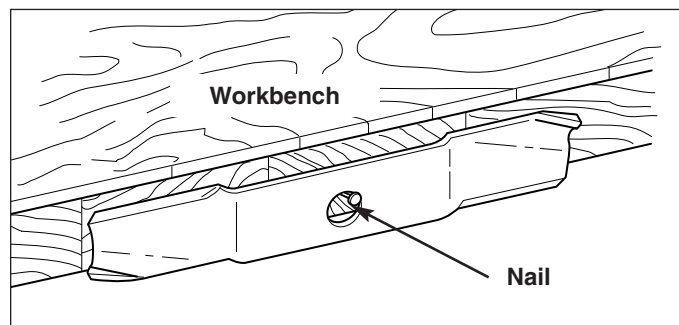

Figure 39. Balancing The Blade
5. Balance the blade as shown in Figure 39. Center the blade's hole on a nail lubricated with a drop of oil. A balanced blade will remain level.